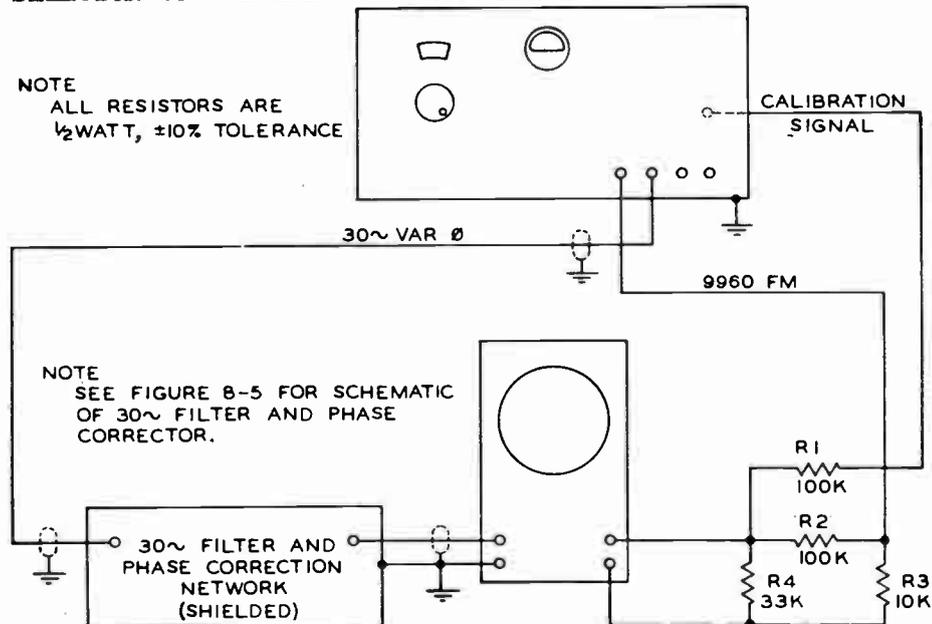

Figure 8-6. Generator Connections for Interference Pattern
2. Connect Generator through networks as shown in figure 8-6. Set FUNCTION SELECTOR to SPECIFIC SIG. and SPECIFIC SIGNAL SELECTOR to 9960 FM.
16. Prepare scope for amplifier operation again and connect 479S-3 to scope as shown in figure 8-6.